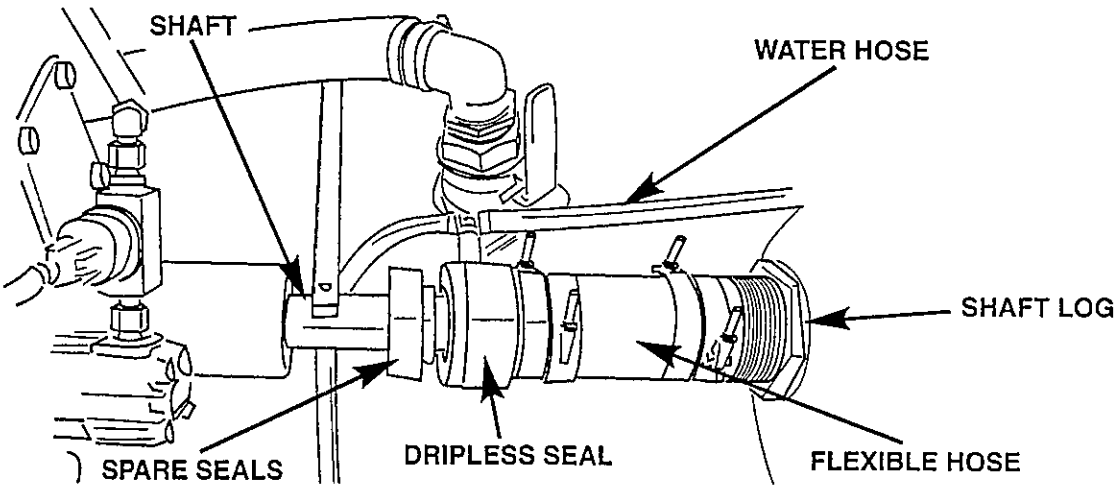

Figure 5-5 Stuffing Box
9. See Figure 5-5. Check stuffing boxes for leaks. There should not be any leaks.